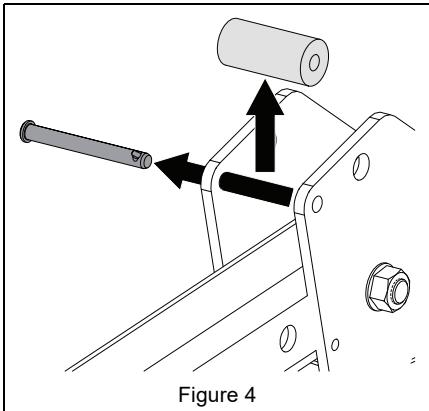

Figure 4
6. Remove and retain one rubber bushing and one pin from each side of ROPS. See Figure 4.